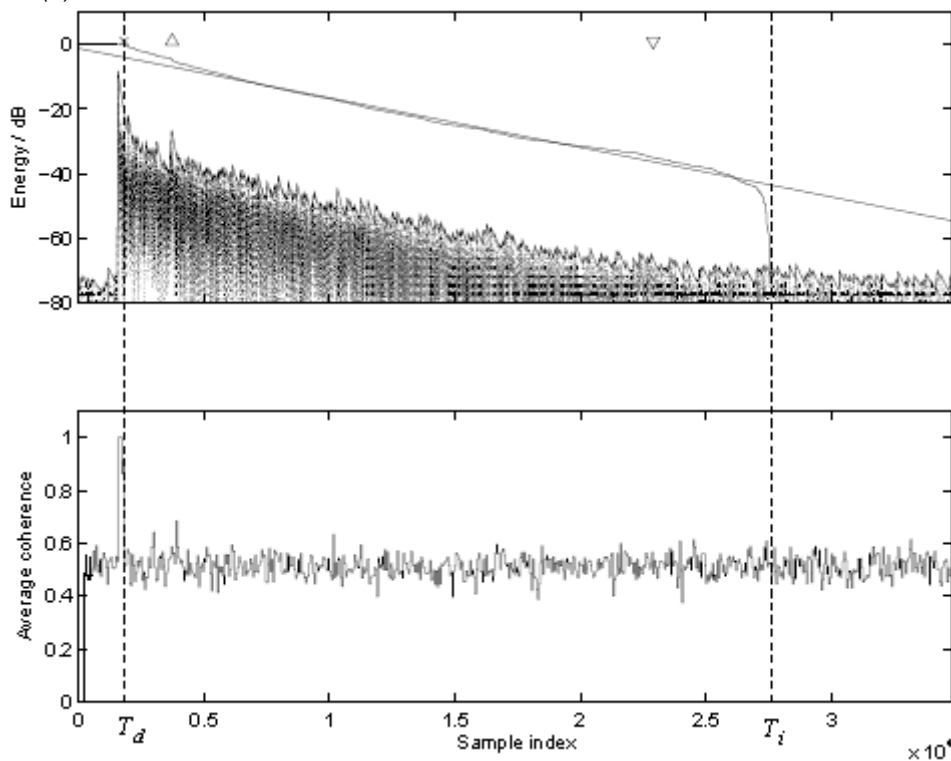

Fig. 6 An example of Schroeder integration with the limits T_i and T_d
- The time before marker t_{trig} in which the SVAN xxx analyser measures the actual sound pressure level and waits for the very high impulse sound pressure level which will fulfil the trigger condition. The trigger conditions will be fulfilled only when emitted impulse has maximal sound pressure level higher than L_t level (cf. Fig. 6). The L_t level in the SVAN xxx analyser is adjusted by parameter **Level** (*path: <Menu> / Measurement / RT60 Settings*).